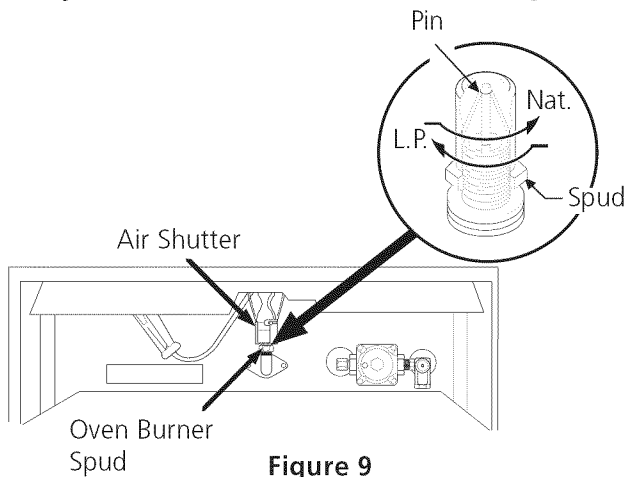

Figure 9
B. Adjust Oven Burner Orifice (see figure 9)
Using a ½" wrench, turn down the adjustable spud which injects gas into the oven burner. Turn spud approximately 2½ turns until snug against the LP metering pin. Do not overtighten (see figure 9).